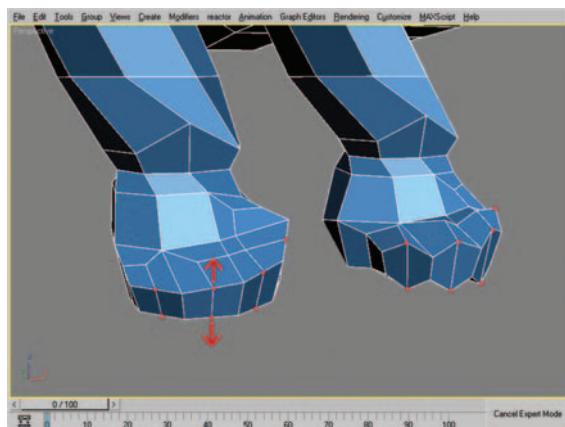

Figure 9.60 Vertices before and after moving with the Move tool.
22. Now that you have the base foot geometry complete, let's move some vertices to create a rounder profile to the fingers. Figure 9.60 shows the vertex placement before and after moving.